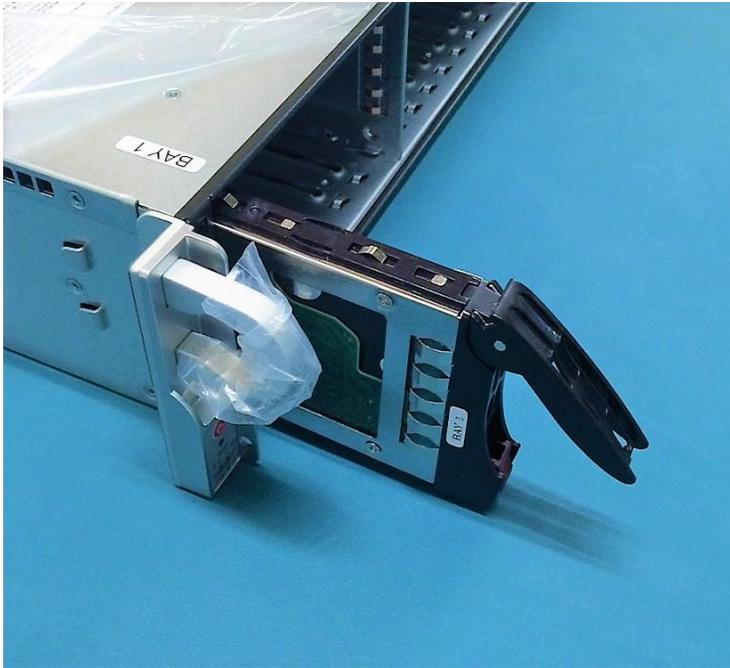

Figure 1.3: Inserting BAY1 hard drive into chassis enclosure BAY1.
2. Insert BAY 1 hard drive into chassis enclosure BAY 1, as shown in Figure 1.3.